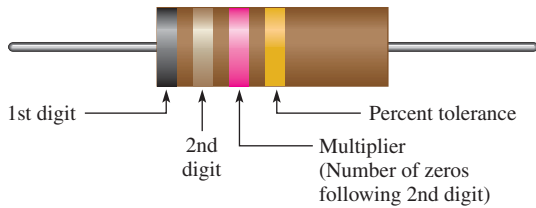

FIGURE 27
**Resistor Color Codes** Some types of fixed resistors with value tolerances of 5% or 10% are color coded with four bands to indicate the resistance value and the tolerance. This color-code band system is shown in Figure 27, and the **color code** is listed in Table 1. The bands are always located closer to one end.